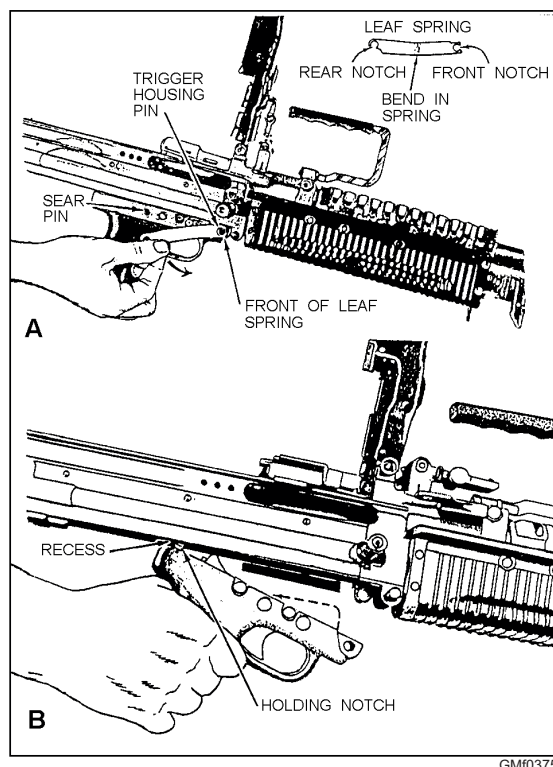

Figure 3-75.—Removing the trigger mechanism grip group.
remove the group, press in on the front of the leaf spring and rotate the front end down to clear it from the trigger housing pin as shown in figure 3-75, view A. Pull forward to disengage the rear notch from the sear pin. Remove the trigger housing pin by pushing it to the left. Slide the trigger housing slightly forward, rotate the front of the housing down, and remove it (fig. 3-75, view B).
2. Engage the holding notch of the trigger housing in its recess in the bottom of the receiver (fig. 3-75, view B). Rotate the front of the trigger housing up and align the holes of the trigger housing with the mounting bracket on the receiver. Insert the trigger housing pin from the left. Engage the rear of the leaf spring with the sear pin (fig. 3-75, view A). Make sure the leaf spring is positioned so that the bent portion is pressed against the side of the trigger housing. Rotate the front of the leaf spring up and engage it with the trigger housing pin.